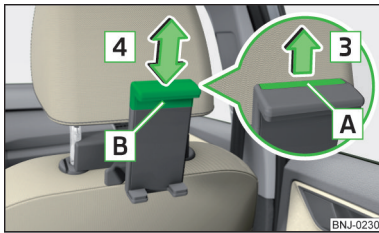

Fig. 101
► To **adjust the holder size**, pull out the securing tab **A** in the direction of arrow **3** and push the part **B** in the direction of arrow **4** to the desired position » Fig. 101.